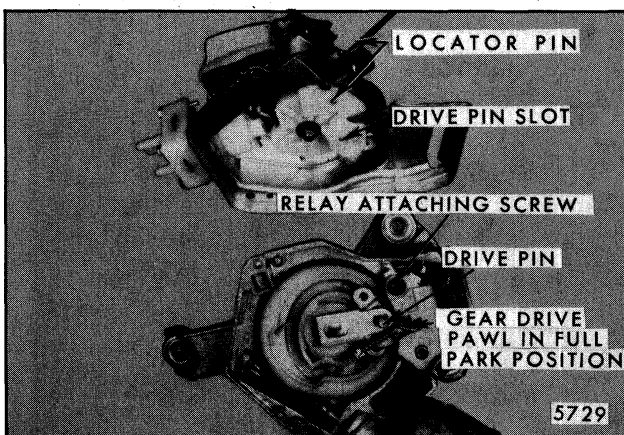

Fig. 2-133-Installing Pump to Motor
NOTE: Gearbox mechanism must be in park position (Fig. 2-133).
1. Install locator pin in pump mechanism as shown in Figure 2-133.
2. Position pump assembly on gearbox and install the three attaching screws (Fig. 2-133).
6. Reinstall small plastic plate in terminal 6 and 7 opening, refer to Figure 2-133.